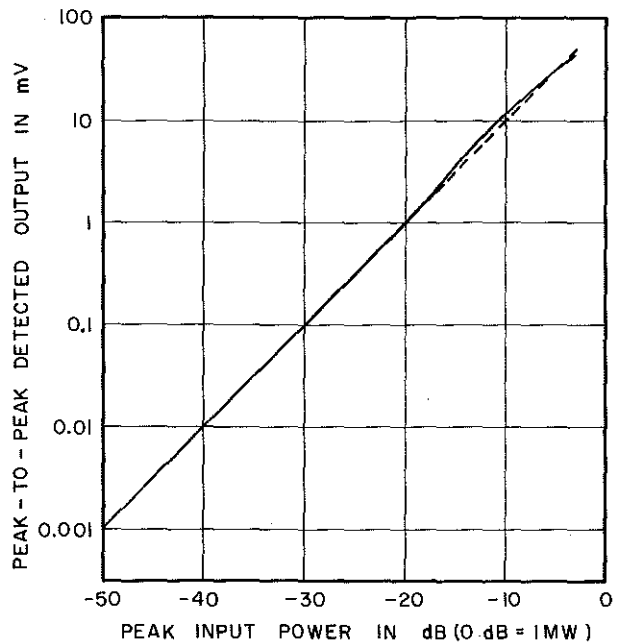

Figure 4. Square-Law Characteristics at 20°C of Typical 422A Crystal
14. For most measurements, level of the signal into the Model 422A should be low enough that crystal response is in the square-law range (see Figure 4). With RF input signals of -18 dBm (peak) or less, error due to deviation from square-law typically will be less than a half dB when the Model 422A is operated with its selected Load Resistor. With RF input signals of about -18 dBm to -3 dBm, and loading resistor attached, error due to deviation from square-law will be no higher than ± 1 dB.